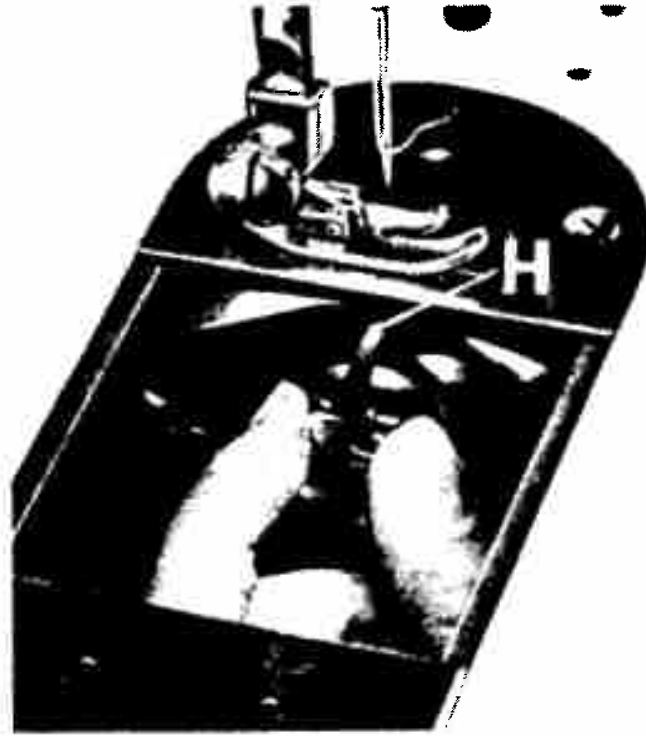

Fig. 4
3. Pull out the bobbin case with thumb and forefinger, as shown in Fig. 4.
7. With the needle bar raised, push the bobbin case on the center stud in the shuttle and turn it until its position finger **H** is opposite the position slot (Fig. 4).